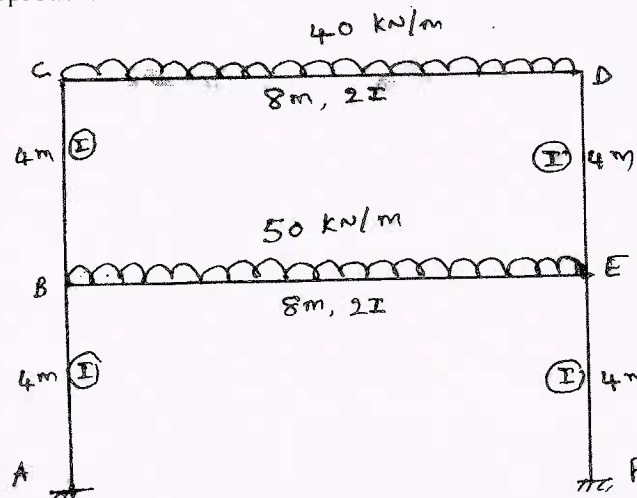

Fig Q6
- 6 Analyse the frame shown in Fig Q6 by Kani's method. Draw bending moment diagram. Use axis of symmetry approach.